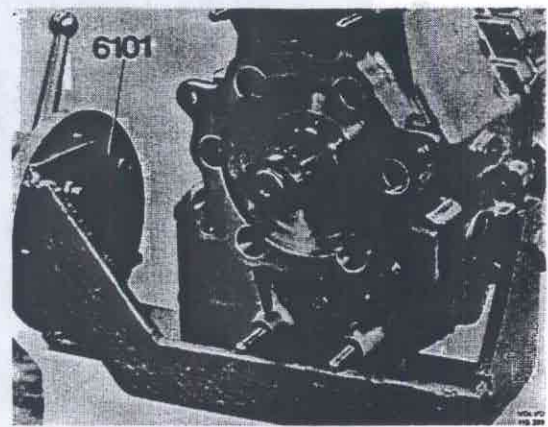

Fig. 43-52. Output shaft nut
11. Engage two gears. Remove the nut on the output shaft, Fig. 43-52, and pull off the sleeve. Remove the nuts for the rear cover and take care of the washers.